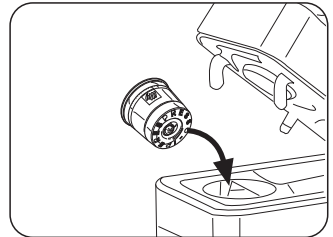

Fig. 8
- Slowly lift the control lever (1) backwards (until it stops) (Fig. 7) and introduce a capsule in the slot provided (Fig. 8)